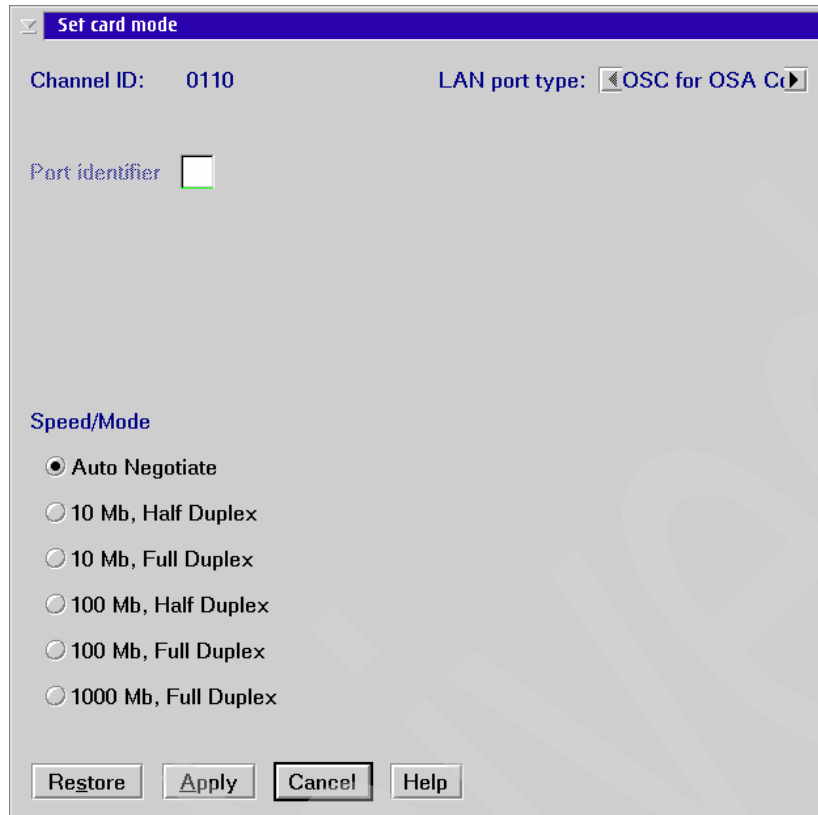

Figure G-2 Set card mode
1. Starting at the Advanced Facilities panel, click **Set Card mode**, and click **OK**. The Set Card Mode panel is displayed (see Figure G-2 on page 147).